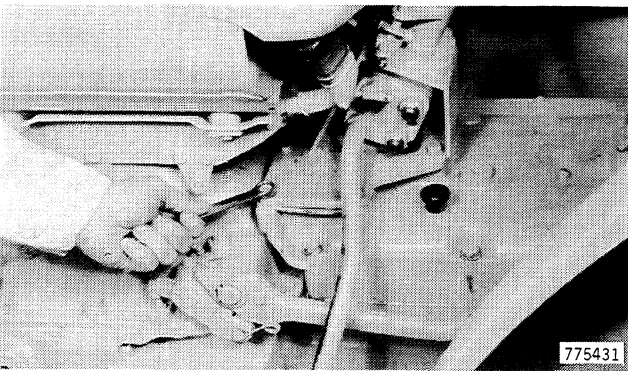

Figure 169
82. Install the steering valve cap screws, Figure 169.